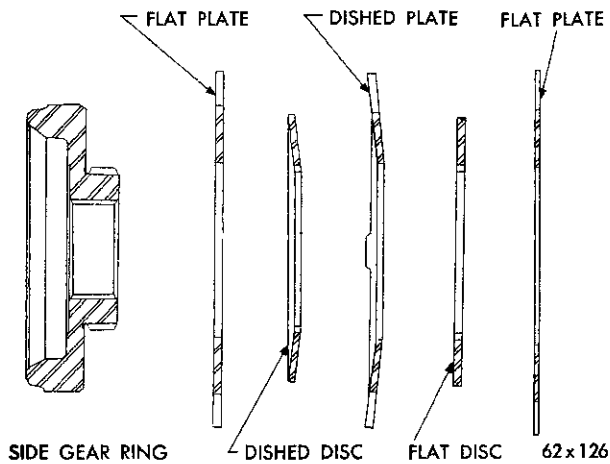

Fig. 41—Arrangement of Clutch Plates and Discs
(1) Position the clutch plates and discs in their proper location in each half of the case, as shown in Figure 41.
(2) Place the side gears in their retainers. Insert splines of the retainers through the splines of the clutch discs.
(3) Place the aligning pin through one axle shaft